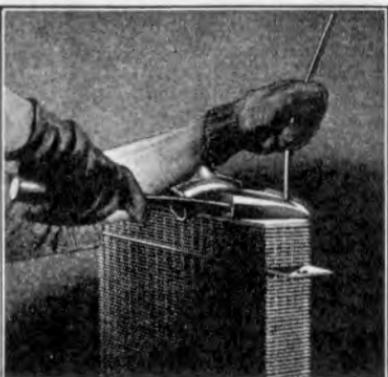

Fig. 409
- 818** First solder the ends, drawing the solder around the corners about  $\frac{1}{2}$  to  $\frac{3}{4}$ ". The radiator should be placed bottom side up for this operation (See Fig. 409). Next place radiator in a level position and solder both sides where tank and header are joined (See Fig. 410). When soldering around outlet connection a little extra time and care is necessary to make a good joint. It is a good plan to run all around the outlet connection with the iron to insure a tight seam.